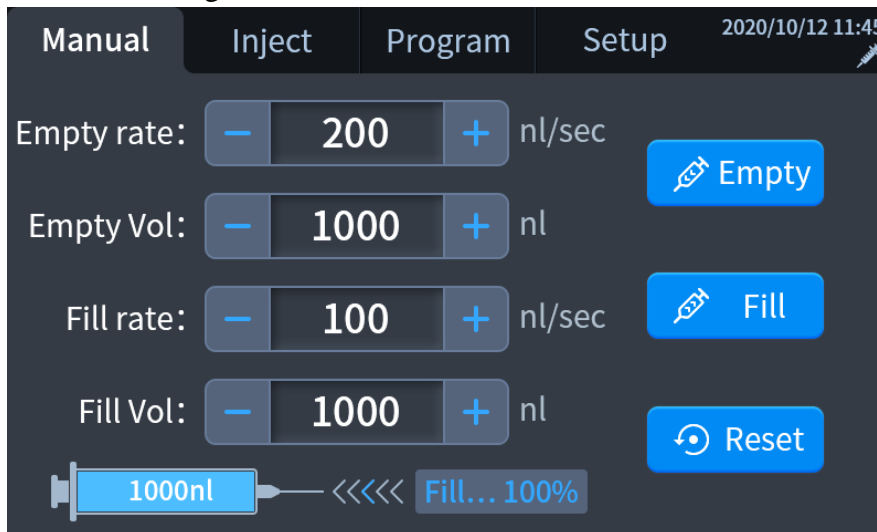

Figure 5-7
- 8) After the filling is completed, the user will hear a beep and the progress percentage is 100%, as shown in Figure 5-7.